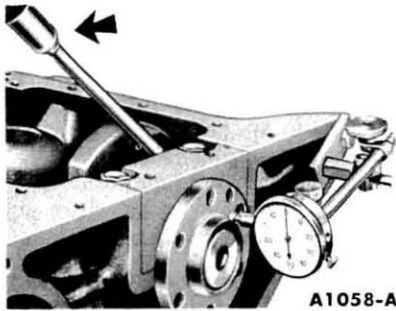

FIG. 31—Crankshaft End Play
12. Install a dial indicator so the contact point rests against the crankshaft flange and the indicator axis is parallel to the crankshaft axis (Fig. 31).